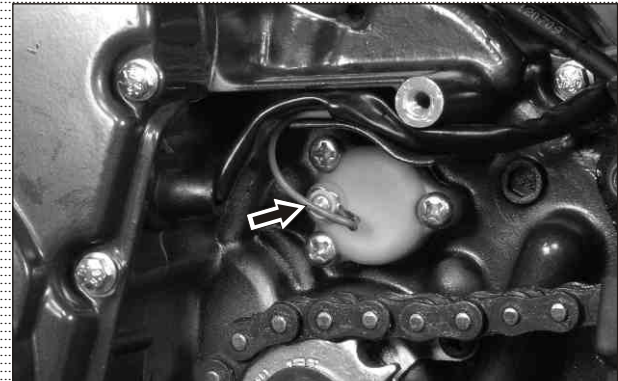

Fig. 5.28
- The DC output from the ignition lock is directly connected to the neutral indicator lamp of speedometer assembly and the bulb is earthen through a gear shift switch mounted on the crankcase assembly L just above the engine sprocket. (Fig. 5.28)